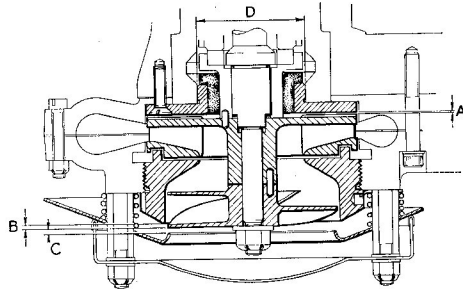

Fig. 11. Impeller helix and vapour guide cone assembly clearances
(1) Position a pillar (124) on each of the studs, then fit the helix shroud locking tab (123) under one pillar so that the tab locates in the vertical groove in the shroud thread (para. 34). Fit a spring (138) over each pillar and place the vapour guide cone (139) into position.
(2) Assemble the filter (125) and hold it in position against the pressure of the springs. Check the clearance between the tips of the helix blades and the mouth of the vapour guide cone (Dim.C, fig. 11) and ensure that it agrees with the dimension given in Table 3.
(3) Thread a locking wire through the holes in the volute casting and the vapour guide cone, and bring the wire out through the mesh of the filter. Secure the filter assembly to the studs with self-locking nuts (126), attach an approved seal to the locking wire and position it as close to the filter as possible. On pumps which have been fitted with temporary studs, remove one stud at a time, and substitute a mushroom headed screw and a shakeproof washer, until all four screws have been fitted.
(4) Tighten the securing nuts, or the mushroom headed screws.